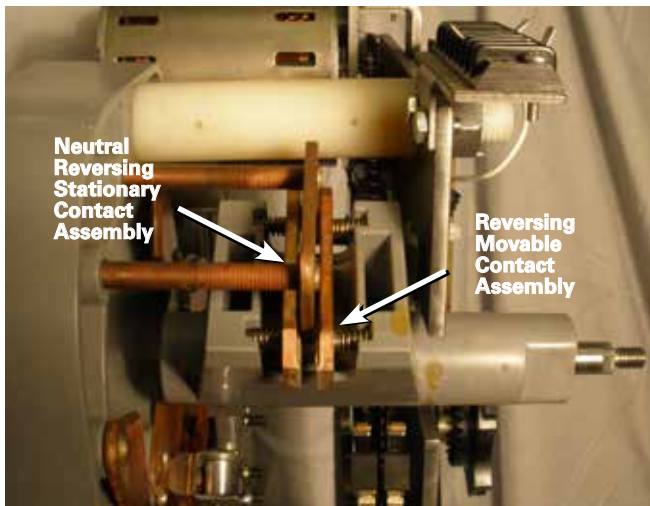

Figure 37. Reversing movable and stationary contacts.
- Pull the reversing movable contact assembly and the reversing neutral stationary contact forward toward the steel front panel as far as possible. See Figure 37.